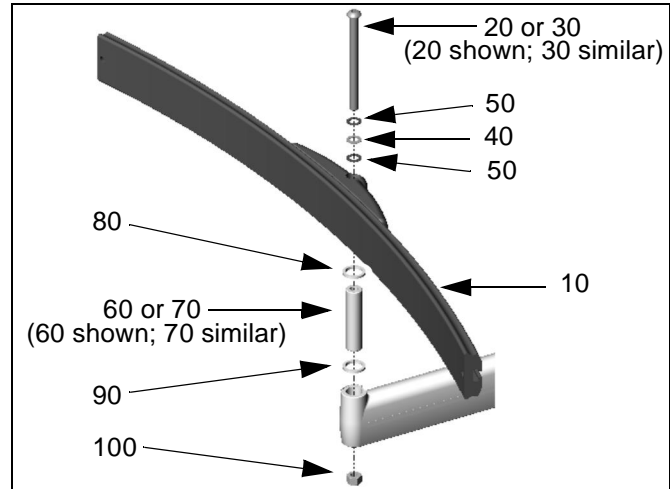

Figure 15: Assemble Array
2. Install pin and spacer(s) into upper mount arm bore (See Figure 15):
3. Install array (10) onto pin (60 or 70, as applicable) (See Figure 15).
4. Insert and hold nut (100) into lower mount arm bore (See Figure 15).
5. Insert screw (20 or 30, as applicable) through washer (50), washer (40), washer (50), array (10), array/mount arm assembly, and into nut (100) (See Figure 15). Tighten screw as required using 3/16" hex key.